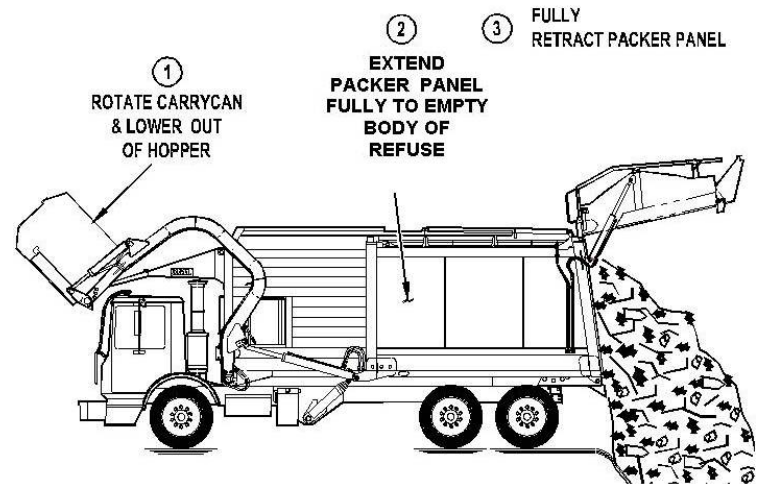

Figure 55. Before Raising Body (Carrycan Unit)
► Follow These Steps (see Figure 55):